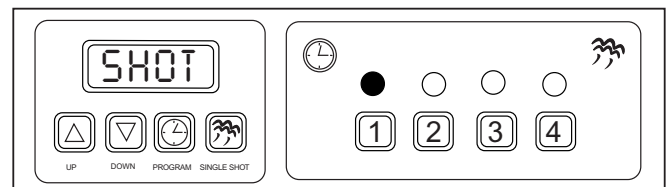

Figure 6. SHOT Mode on Menu 1
SHOT (Steam Shot Time) is used to adjust the water volume used during each solenoid operation (shot of steam) (Figure 6).
9. Press the **PROGRAM** button again and SHOT will appear in the display for a moment (Figure 6).
11. Press the selected channel button to store the changes (Figure 6) or press another channel button to store the changes and select a new channel.